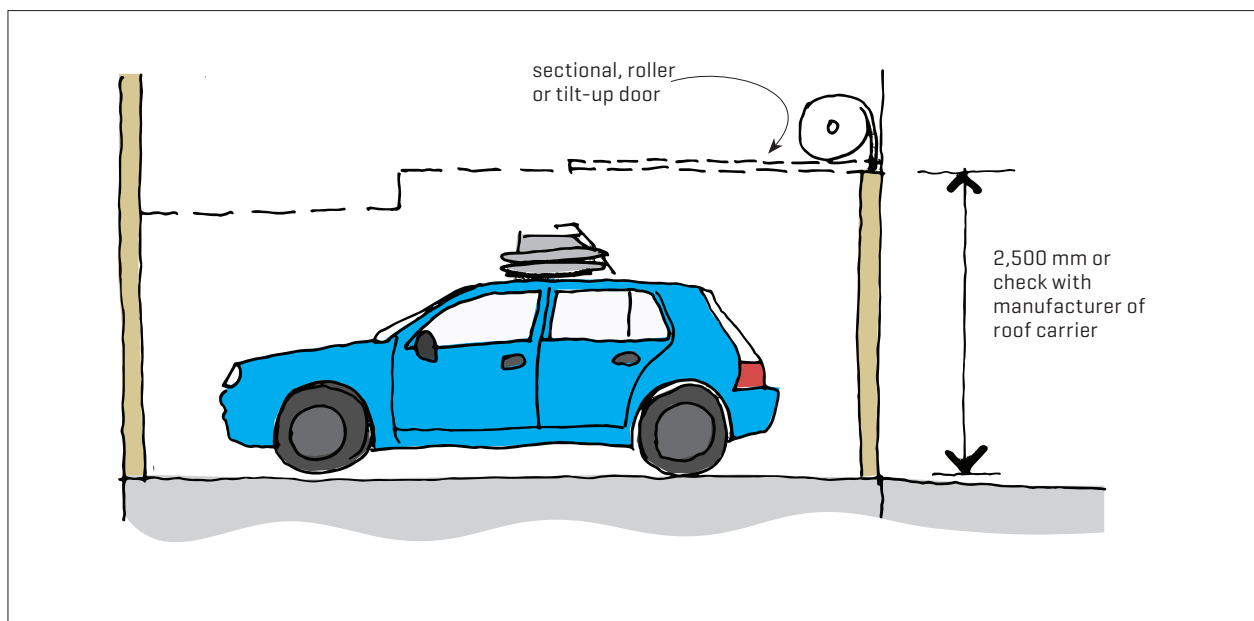

Figure 3. Vertical clearance for a car-roof carrier carrying a wheelchair. Additional clearance may be required for larger vehicles.
3.0.7 Sectional, roller or tilt-up doors should be automatic and at least 3,000 mm wide. If a wheelchair is used and the chair is carried upright on the top of the vehicle, 2,500 mm clearance is needed [Figure 3]. Also check the roof-carrier manufacturer's recommendations for the required clearance for wheelchairs and other equipment. Additional clearance may be needed for larger vehicles.